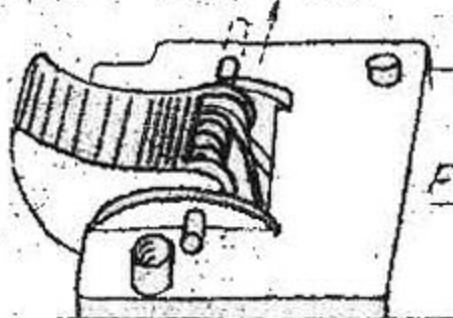

FIG 3
- 6° Advance mechanism completely locked - button sticks down (fig. 3).